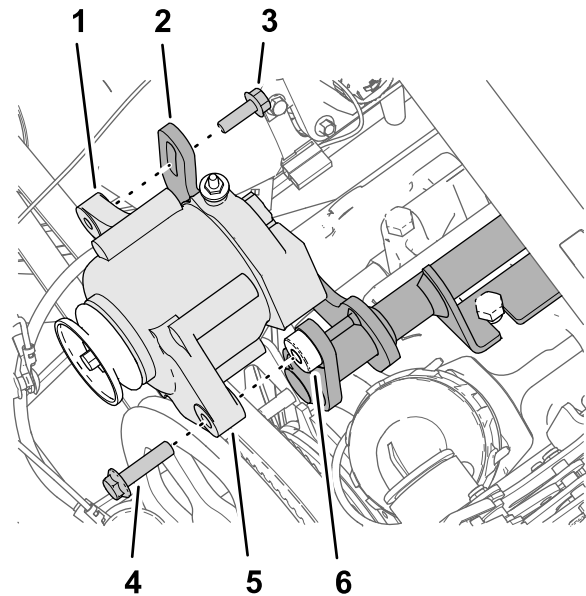

Figure 228
1. Assemble the alternator (60 A) to the threaded boss of the alternator-bracket (Figure 228) with the flange-head bolt (3/8 x 1-1/2 inches).
- (Figure 228) with the flange-head bolt (8 x 25 mm).